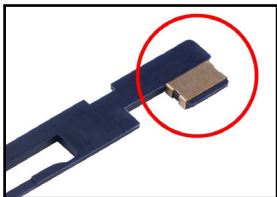

Fig. 1 - Remove metal part on the selector plate
3. Remove metal plate on the selector plate - see Fig. 1. (if it is on selector plate)